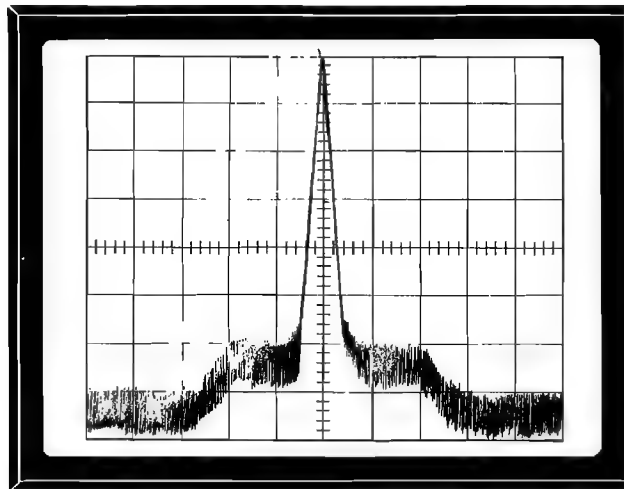

Figure 4-2 RF Output Display
- The spectrum 2 MHz on each side of carrier is rounded and does not break into oscillations (refer to Figure 4-2).